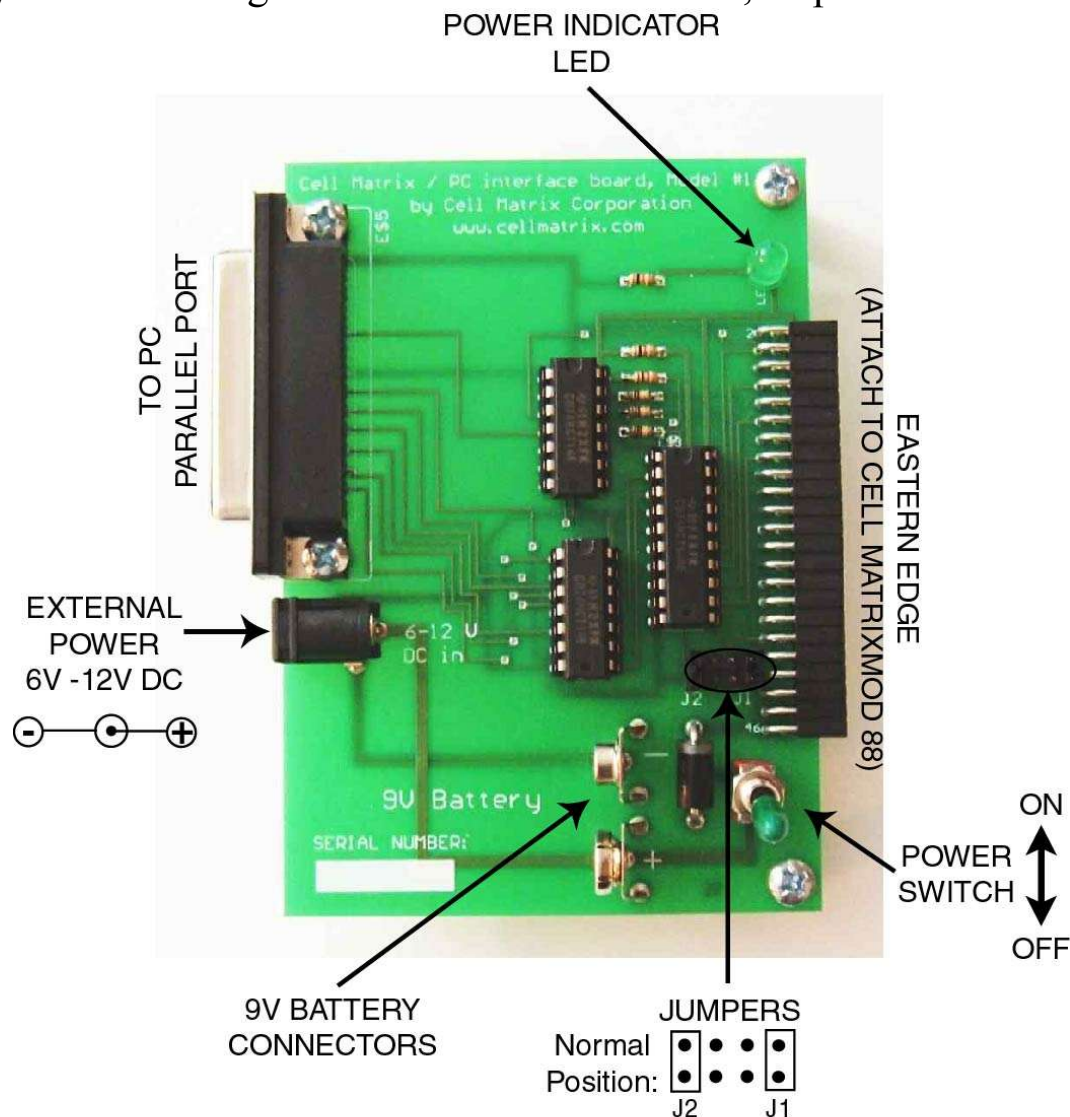

FIGURE 7 - PC INTERFACE BOARD
- Make sure the Power Switch on the *PC Interface Board* is ON (flipped towards the top of the board). The Green Power LED should be illuminated (see Figure 7).